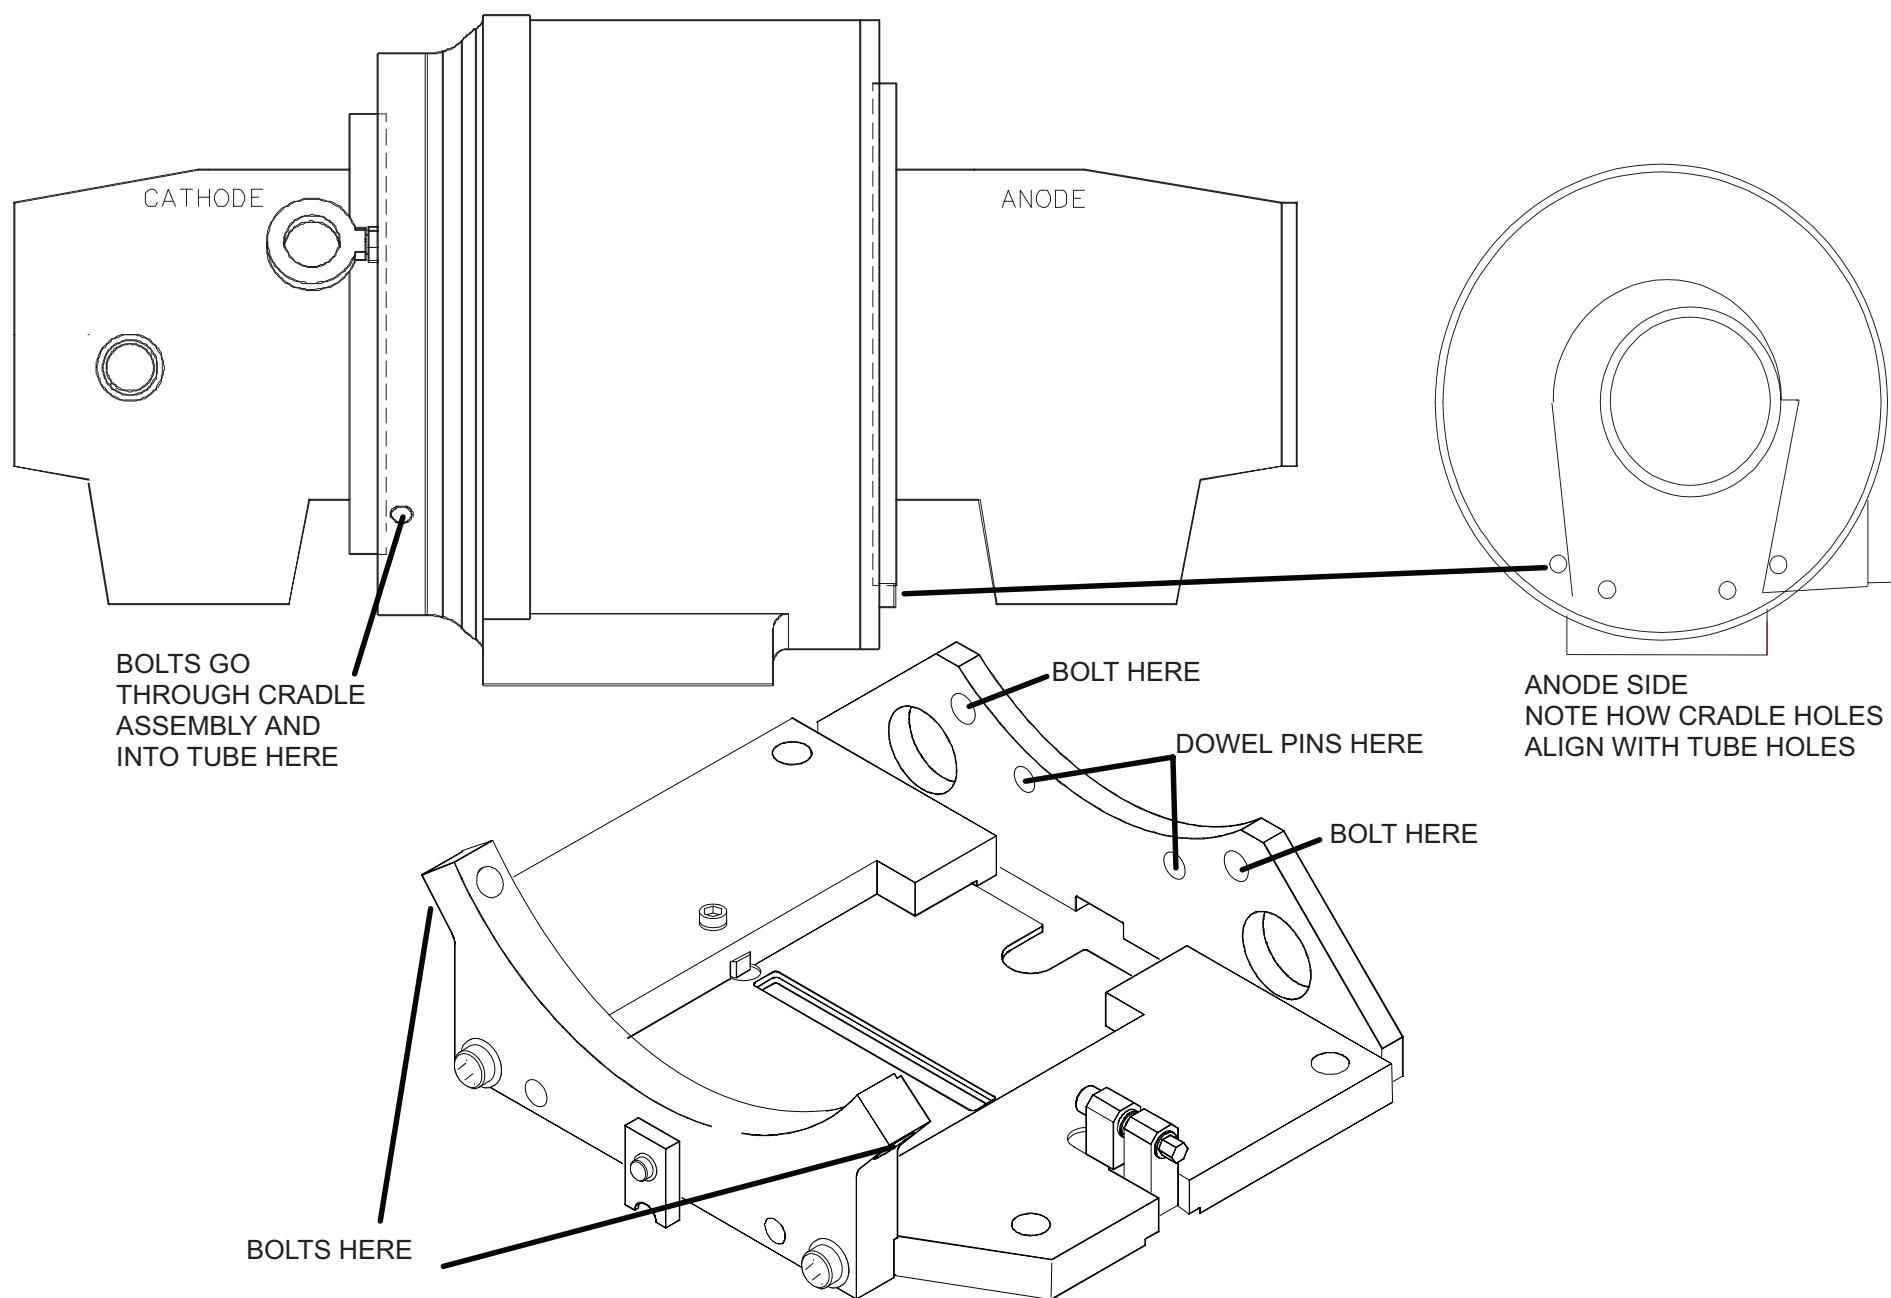

FIGURE 50 CRADLE ASSEMBLY
5. Loosen one of the two Axial Alignment Block Mounting Socket Head Capscrews and remove the other. Let the Block swing down to allow removal of the X-Ray Tube Cradle. Refer to Figure 50.
11. Attach Cradle Assembly to Xray Tube. Follow illustration in Figure 50 for proper installation. Do not tighten Hex Head Bolts until Cradle End Plate is firmly seated on Tube and Base Plate Alignment Pins.